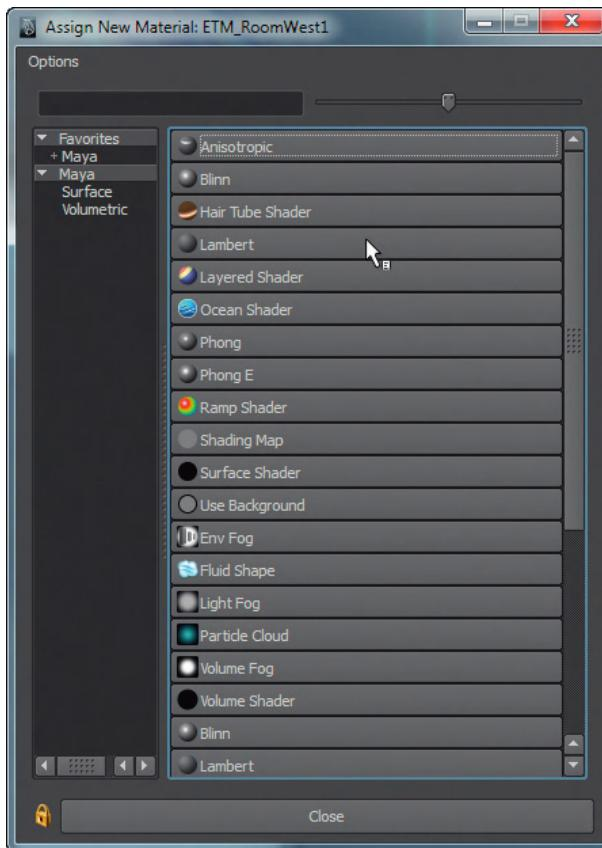

FIG 5.6 Picking the type of new material to create.
Step 4: Make the new material a Lambert. When you choose Assign a New Material, a dialog box similar to Fig. 5.6 will appear. We will spend a lot more time working through the details of materials and shader types later. For now, we'll create the simplest and fastest rendering material type – a Lambert. Just click on the Lambert button.